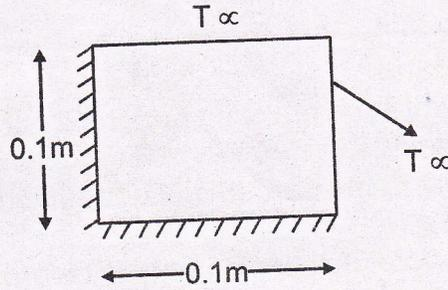

Figure 5
3. a) Find the temperature distribution in the square plate as shown in figure 5. Assume $K = 30 \text{ W/m K}$, $T_\infty = 50^\circ\text{C}$ and $q = 100 \text{ W/m}^3$. 20